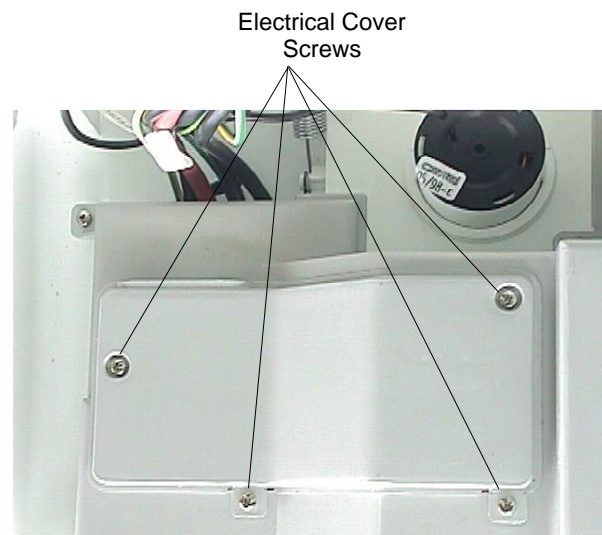

Fig. 19
Remove electrical cover by releasing four securing screws. Fig.19.
5.7.7 External controls may be wired from terminals TA to TA after removing the factory fitted link (see fig. 19 & pages 49-52 for further details). If a neutral is needed use the terminal marked N on the terminal strip.